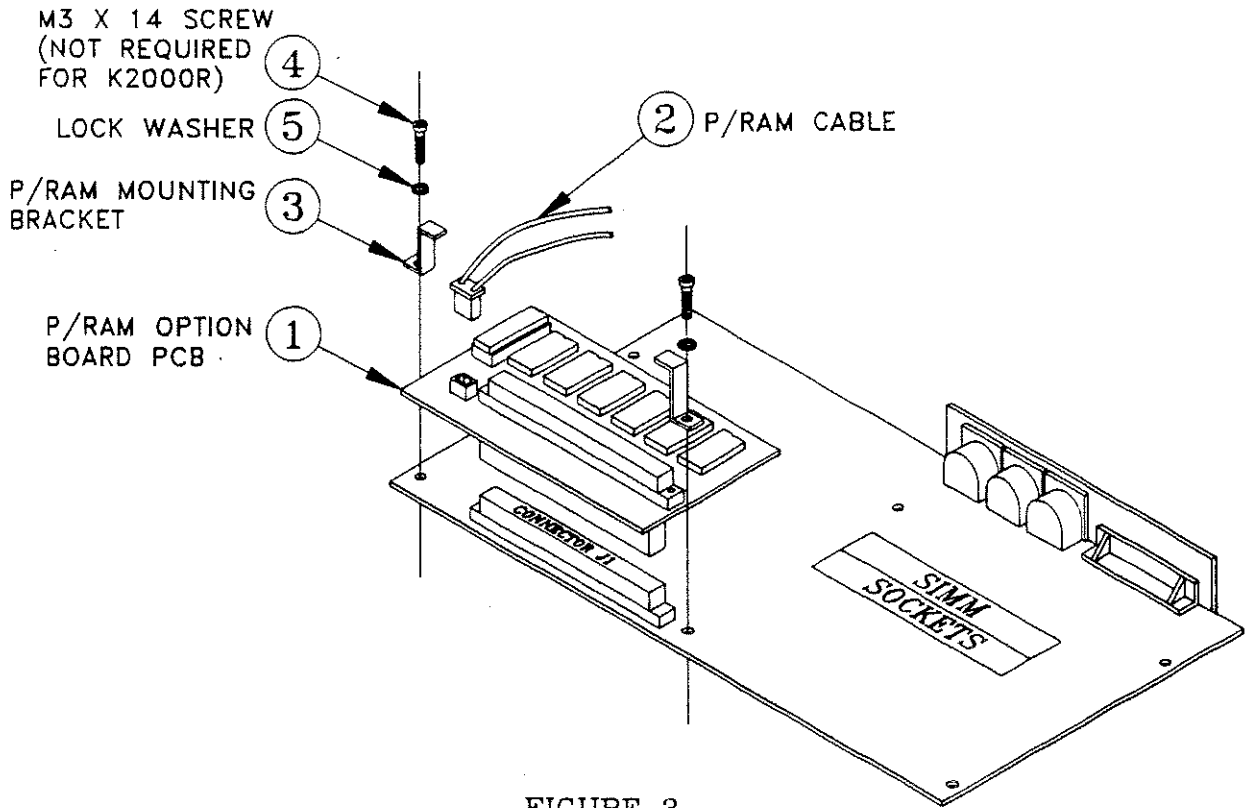

FIGURE 3
8. Remove the two screws to the left and right of connector J1 (see figure 3). You can discard these screws, as they will not be reused.
9. Take the P-RAM Option board (item 1) and with the components facing up, press its connector into connector J1 on the Engine board. See figure 3. The P-RAM Option board connector is keyed to prevent improper connections.
10. Put one lock washer (item 5) on each of the supplied screws (item 4).
11. Insert one screw and washer through the hole in each of the mounting brackets (item 3).
13. Take the P-RAM Option board cable (item 2) and plug it onto the keyed connector on the P-RAM Option board cable (item 2) and plug it onto the keyed connector on the P-RAM Option board. See figure 3.